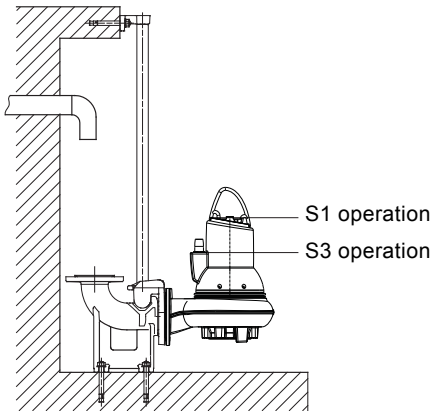

Fig. 2 Stop levels
- **S1 operation** (continuous operation), the pump must always be covered by the pumped liquid to the top of the motor. See fig. 2.
- **S3 operation** (intermittent operation), the pump must always be covered by the pumped liquid up to the top of the cable entry. See fig. 2.